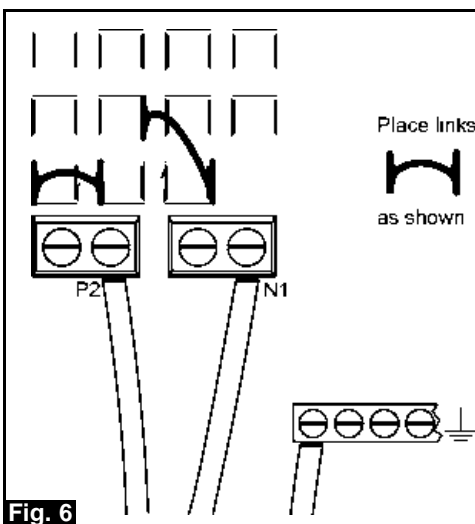

Fig. 6
4. If you intend to connect the unit to a single phase supply, fit the single phase input links provided, (10A per channel units only) Fig. 6, page IV.
The dimmer is designed to operate on the following power supplies. See figs. 6 and 7.